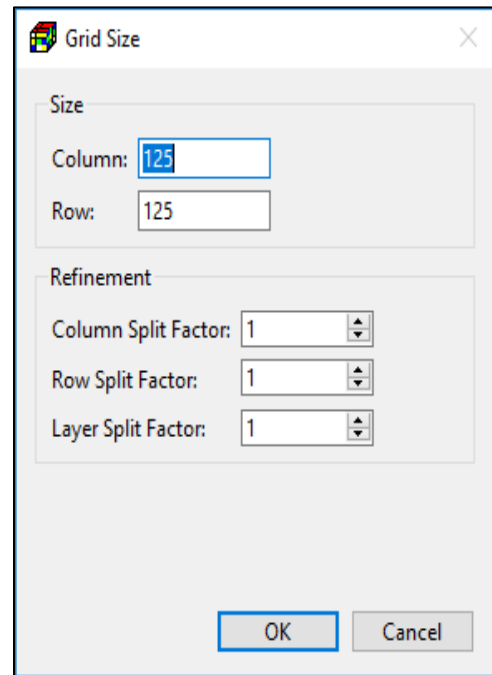

Figure 12. The Grid Size dialog box
- Right-click on the cell where the column/row width or refinement need to be modified or use the arrow keys to move the grid cursor to the cell and then press Enter. The Grid Size dialog box (Figure 12) is displayed.